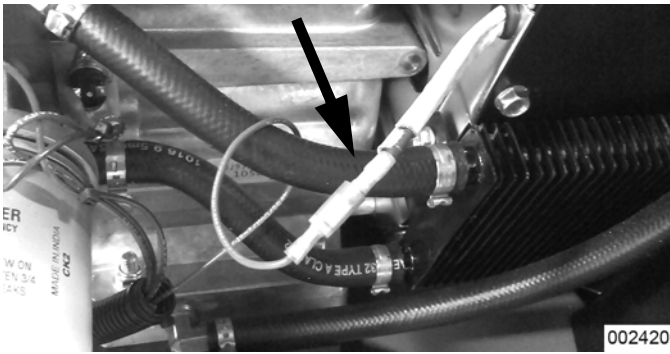
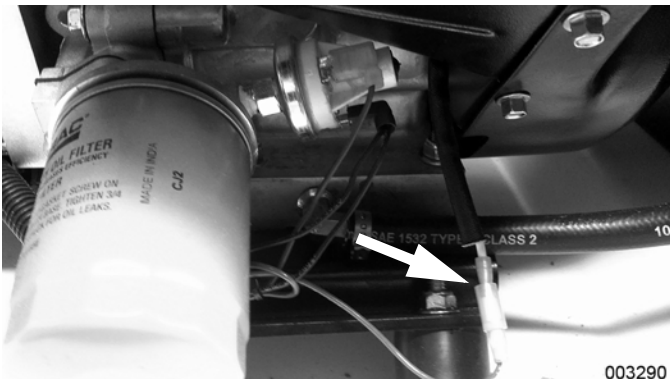
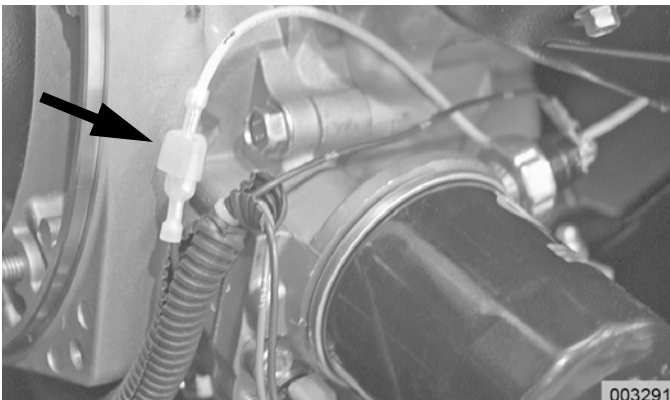

Figure 4-82. Wire 18 Connection – Evolution V-Twin Units
Figure 4-84. Wire 18 Connection – Evolution Single Cylinder Units
Figure 4-85. Wire 18 Connection – Nexus Single Cylinder Units
- **Evolution Units and Nexus Single Cylinder Units** – See Figure 4-82, Figure 4-84 and Figure 4-85. Disconnect Wire 18 at the bullet connector.
- **Evolution Units and Nexus Single Cylinder Units** – See **Figure 4-82**, **Figure 4-84** and **Figure 4-85**. Disconnect Wire 18 at the bullet connector.